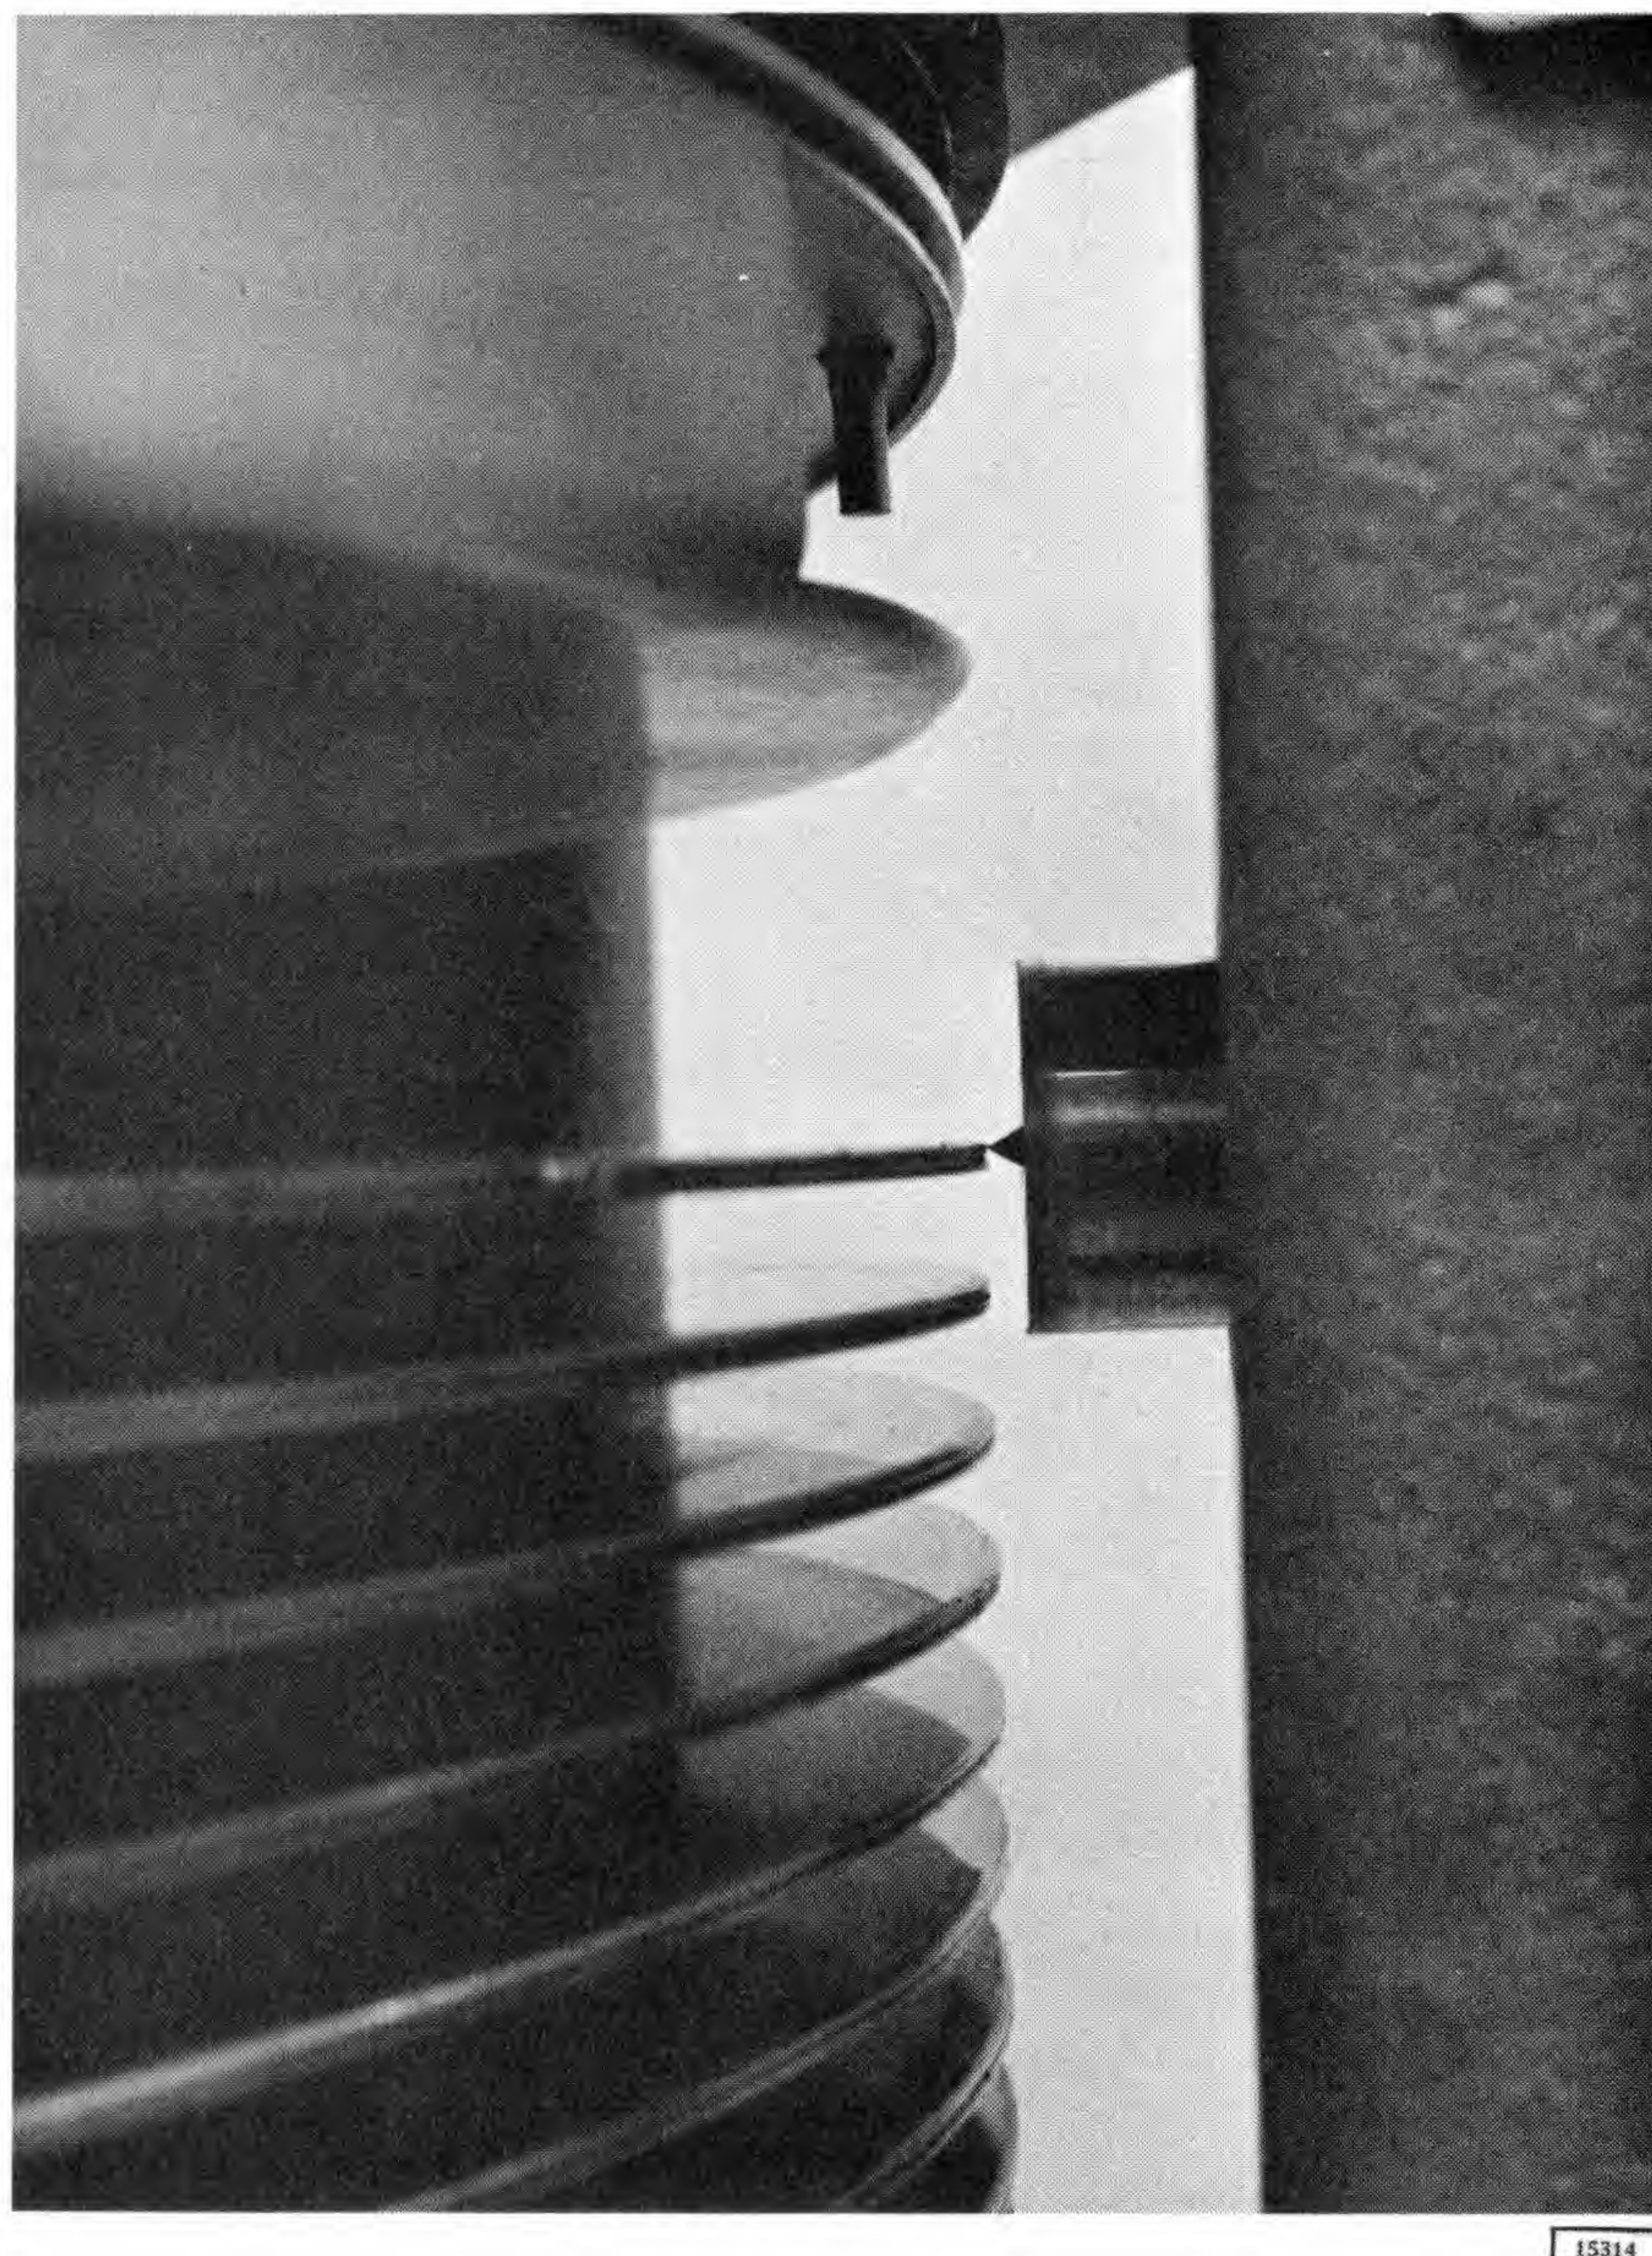

Figure 4-10. Disk Scribing
12. Insert the disk scribing tool assembly into housing (Figure 3-8). Rotate scriber until point is just short of making contact with edge of disk (Figure 4-10). Move scribing tool up and down over the full length of the disk edge, while slowly rotating scriber, until disk is scribed. Back out scriber while moving from one disk to another. Remove scriber.